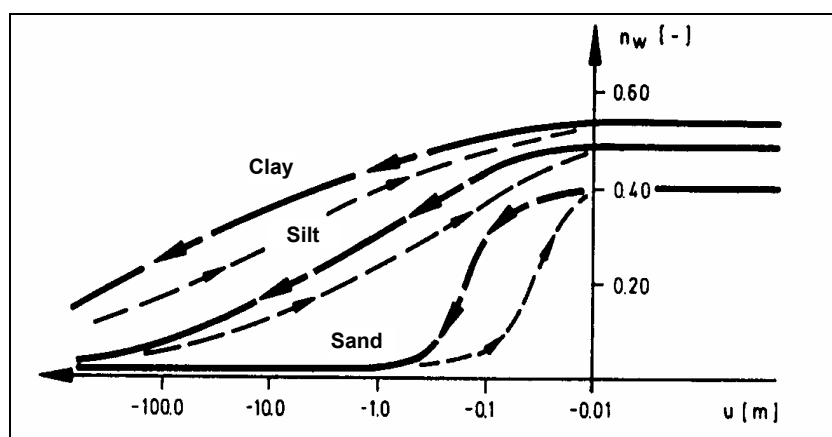

Figure 1 Function  $n_w = f(u)$
- Using the "**Time BC/Soil properties**" menu item, you can query the soil properties which you defined in **GGU-3D-SSFLOW**. This list is supplemented by information on the specific storage coefficient. According to soil type, you can define your specific soil curves, using modelling points by clicking on the "**nw = f(u)**" field (*cf.* Figure 1 further below). The soil permeability can be altered as a function of the time using the "**k = f(t) [0]**" button.
The value for  $n_w$  can also be entered here. The value of  $n_w$  gives the volume of water relative to the total volume. It is a dimensionless variable and is a function of the pore water pressure  $u$ . Typical function curves for various soil types are shown in Figure 1: